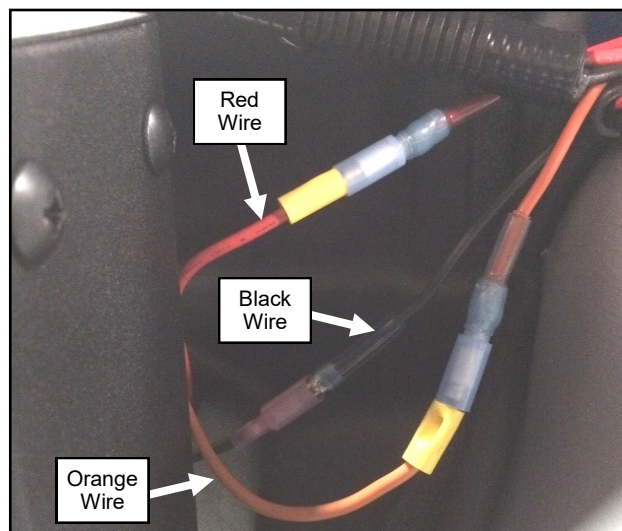

Fig. 18.1 (Heater Power Connections)
- 18.1** Connect the leads found on the heater to the main power wire harness (orange to orange, red to red & black to black). See Figure 18.1.